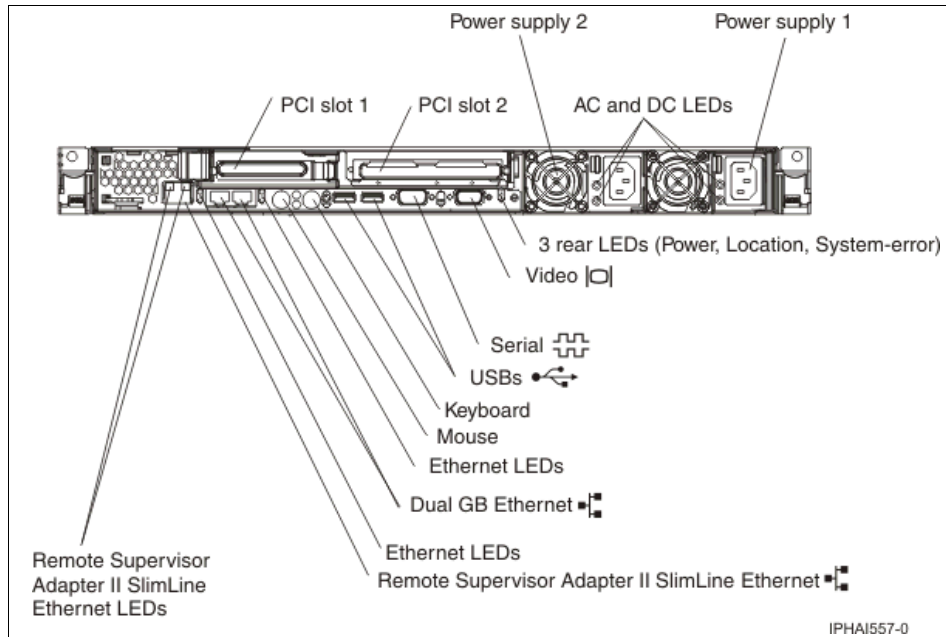

Figure 3-2 Back view of a rack-mounted HMC 7310-CR3
- A rack-mounted HMC 7310-CR3 (Figure 3-2)